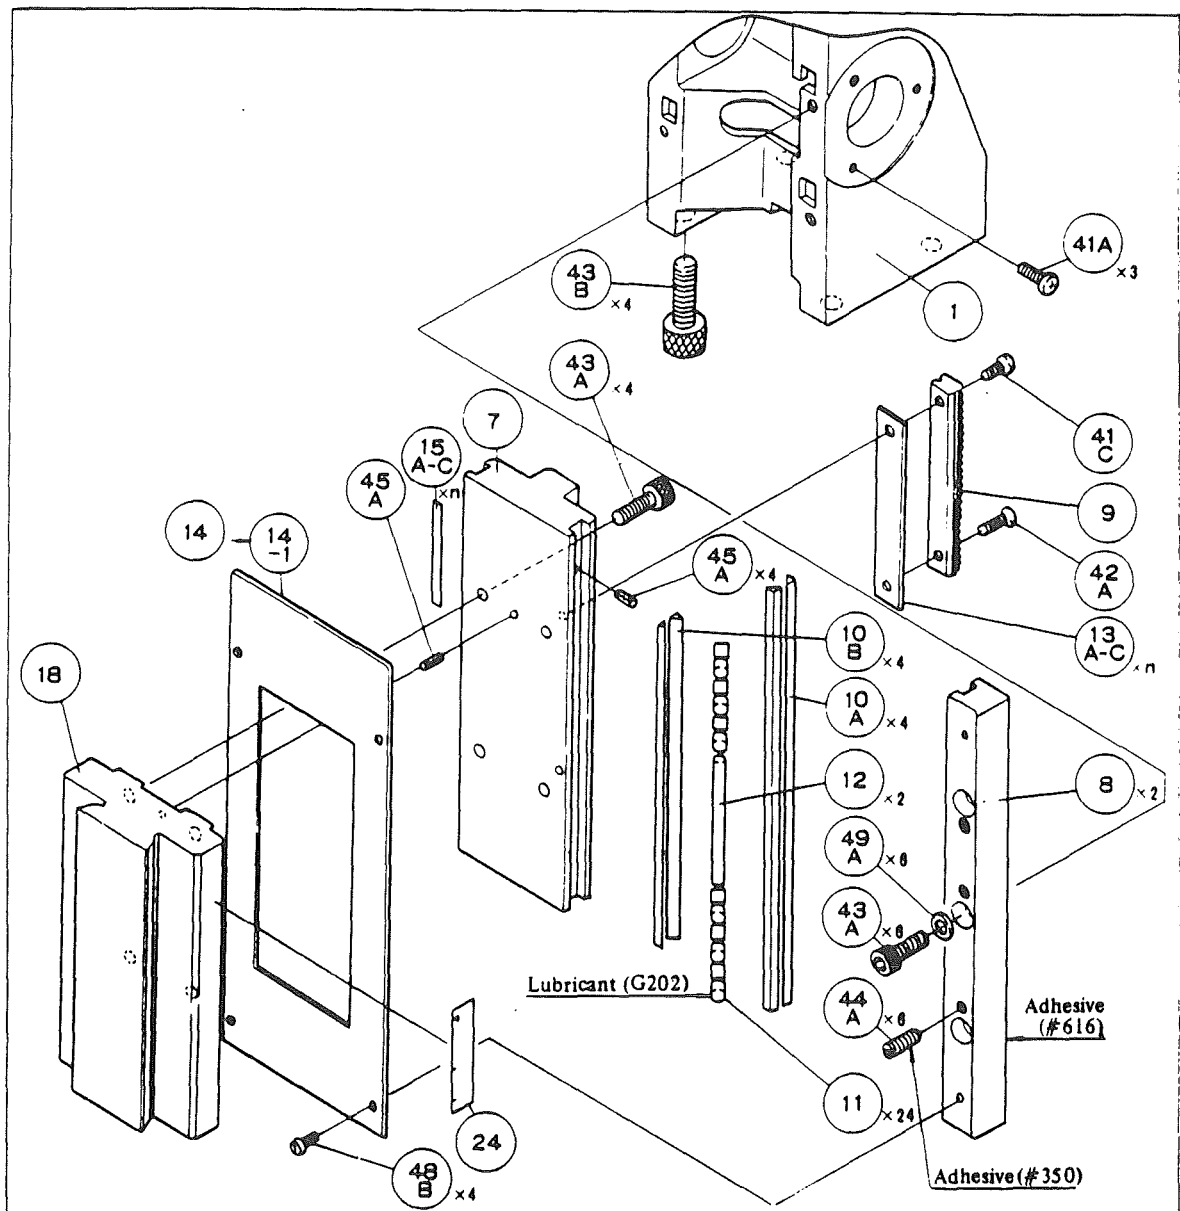

Fig. 29
- 1) Releasing HS set screws (48A) x4 (LABOPHOT: (47A) x4), take off rear cover (2).
- 2) Releasing HS set screws (43A) x4, take off dovetail (18) (LABOPHOT: Screw (235A) and dovetail (201) ) (Fig. 29).
- 3) Releasing HS screws (43B) x4 (LABOPHOT: (47B) x4), take off cover plate (14). (Fig. 29).
- 4) After removing bottom plate (402) from the base, and releasing (43B) x4, take off arm (1) from base body (401). (Fig. 29).
- 5) Releasing screws (41C) and (42A) (LABOPHOT: (41A) and (42A)), draw out rack (9) together with washers (13A) ~ (13C) toward the base. (Fig. 29).